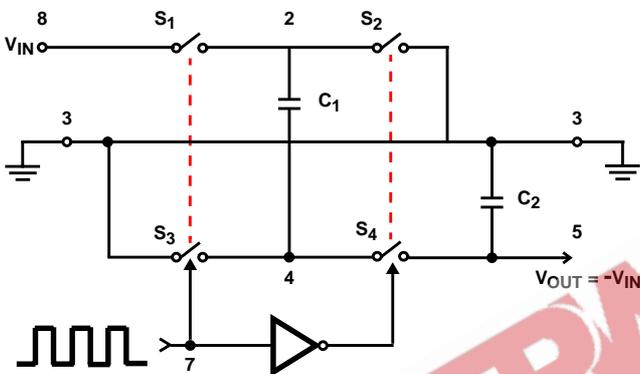
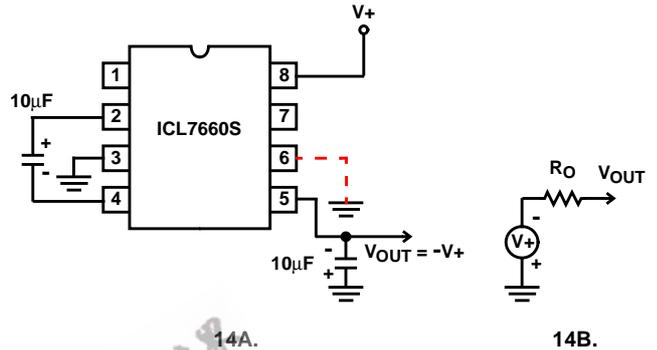
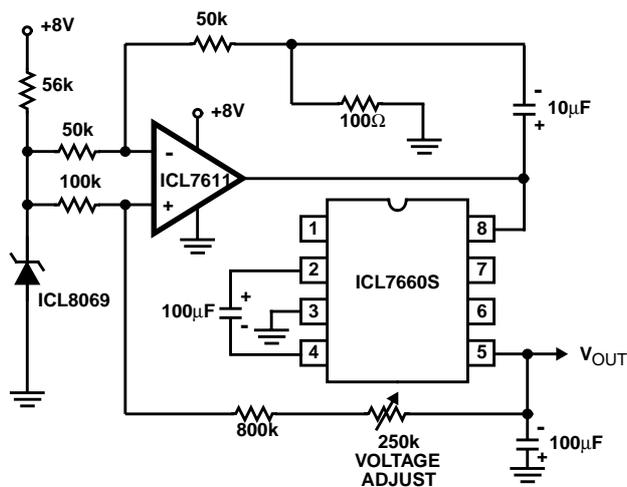
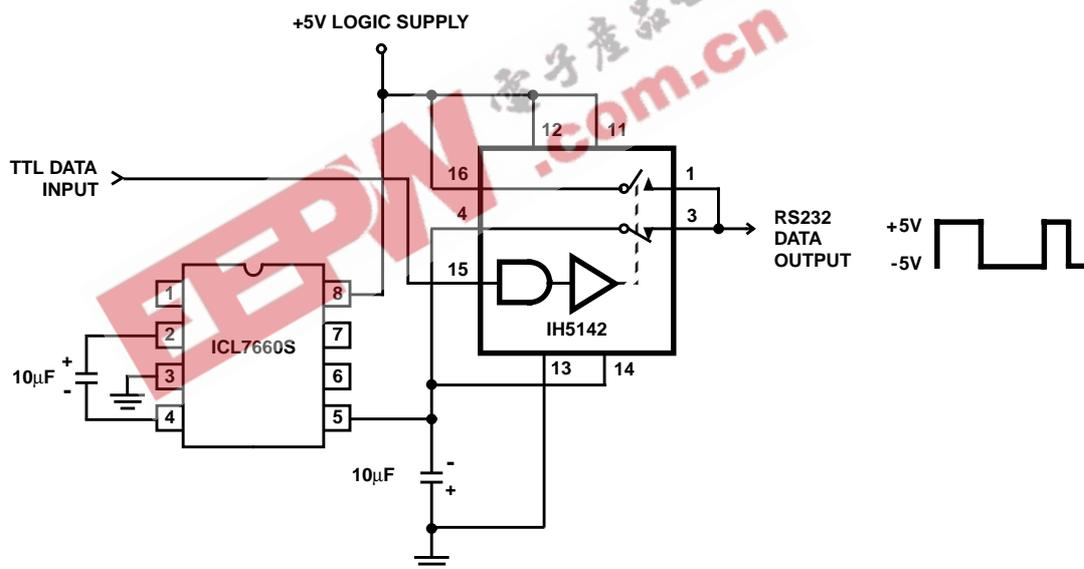

FIGURE 13. IDEALIZED NEGATIVE VOLTAGE CONVERTER
FIGURE 14. SIMPLE NEGATIVE CONVERTER AND ITS OUTPUT EQUIVALENT
FIGURE 20. REGULATING THE OUTPUT VOLTAGE
FIGURE 21. RS232 LEVELS FROM A SINGLE 5V SUPPLY
The ICL7660S contains all the necessary circuitry to complete a negative voltage converter, with the exception of 2 external capacitors which may be inexpensive $10\mu\text{F}$ polarized electrolytic types. The mode of operation of the device may be best understood by considering Figure 13, which shows an idealized negative voltage converter.
In the ICL7660S, the 4 switches of Figure 13 are MOS power switches; S_1 is a P-Channel devices and S_2 , S_3 and S_4 are N-Channel devices. The main difficulty with this approach is that in integrating the switches, the substrates of S_3 and S_4
where V_1 and V_2 are the voltages on C_1 during the pump and transfer cycles. If the impedances of C_1 and C_2 are relatively high at the pump frequency (refer to Figure 13) compared to the value of R_L , there will be substantial difference in the voltages V_1 and V_2 . Therefore it is not only desirable to make C_2 as large as possible to eliminate output voltage ripple, but also to employ a correspondingly large value for C_1 in order to achieve maximum efficiency of operation.
The majority of applications will undoubtedly utilize the ICL7660S for generation of negative supply voltages. Figure 14 shows typical connections to provide a negative supply where a positive supply of +1.5V to +12V is available. Keep in mind that pin 6 (LV) is tied to the supply negative (GND) for supply voltage below 3.5V.
The output characteristics of the circuit in Figure 14 can be approximated by an ideal voltage source in series with a resistance as shown in Figure 14B. The voltage source has a value of $-(V^+)$. The output impedance (R_O) is a function of the ON resistance of the internal MOS switches (shown in Figure 13), the switching frequency, the value of C_1 and C_2 , and the ESR (equivalent series resistance) of C_1 and C_2 . A good first order approximation for R_O is:
The ICL7660S may be employed to achieve positive voltage doubling using the circuit shown in Figure 20. In this application, the pump inverter switches of the ICL7660S are used to charge C_1 to a voltage level of $V+ - V_F$ (where $V+$ is the supply voltage and V_F is the forward voltage on C_1 plus the supply voltage ($V+$) is applied through diode D_2 to capacitor C_2 . The voltage thus created on C_2 becomes $(2V+) - (2V_F)$ or twice the supply voltage minus the combined forward voltage drops of diodes D_1 and D_2 .
Figure 21 combines the functions shown in Figure 14 and Figure 20 to provide negative voltage conversion and positive voltage doubling simultaneously. This approach would be, for example, suitable for generating +9V and -5V from an existing +5V supply. In this instance capacitors C_1 and C_3 perform the pump and reservoir functions respectively for the generation of the negative voltage, while capacitors C_2 and C_4 are pump and reservoir respectively for the doubled positive voltage. There is a penalty in this configuration which combines both functions, however, in that the source impedances of the generated supplies will be somewhat higher due to the finite impedance of the common charge pump driver at pin 2 of the device.